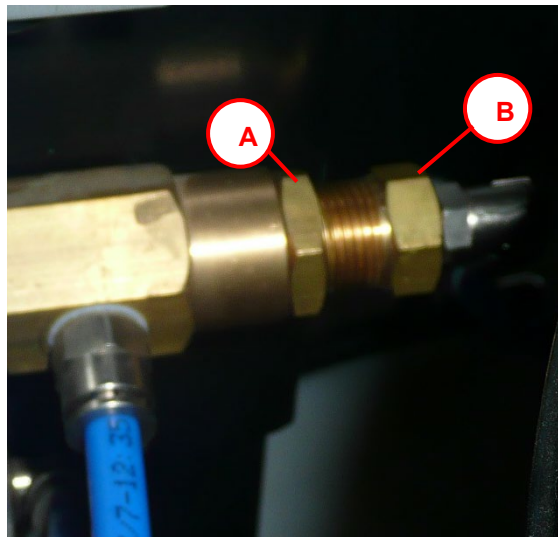

Figure 11.2-1 Adjusting maximum pressure pneumatic circuit
5. Unscrew with wrench 22 mm in, the nut (Letter A in Figure 11.2-1);